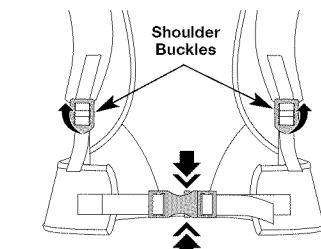

Fig. 17
1. Pull up on bottom tab of the shoulder buckles to loosen the shoulder straps (Fig. 17).
2. Squeeze the top and bottom of the waist clip to release and remove unit (Fig. 17).